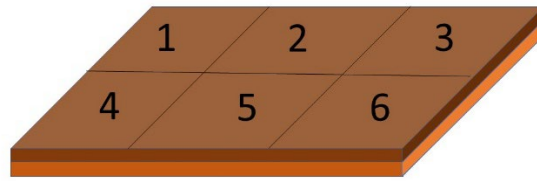

Figure 1. Dividing field into 6 approximately equal sections.
1. Divide the field into 6 approximately equal sections (Figure 1). The field capacity will be estimated for each of these sections and then a field average value will be determined, thereby accounting for variation within the field.